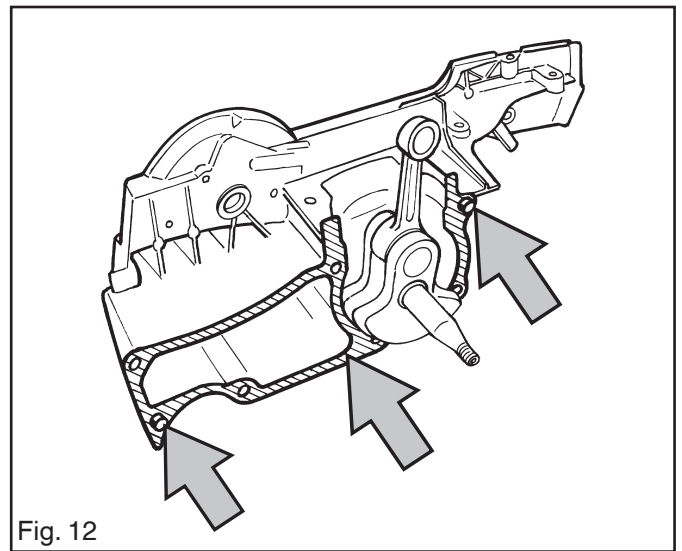

Fig. 12
4. Place the guide pegs in the crankcase half of the clutch side, and grease in and insert the gasket. See fig. 12.